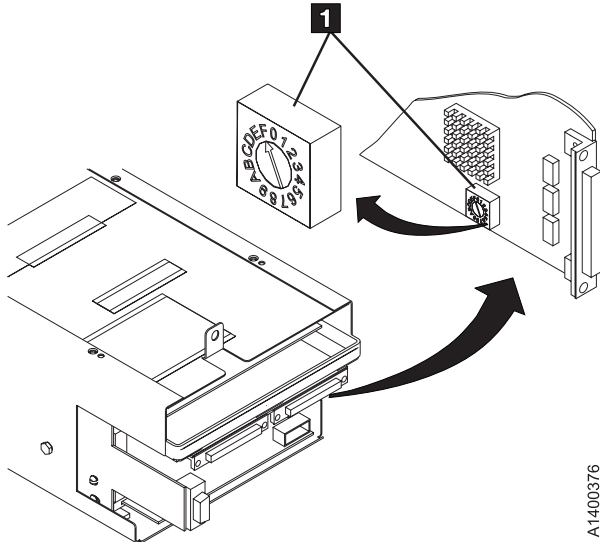

Figure 10-50. SCSI Card Mode Switch
2. See Figure 10-50. There is a selectable mode switch **1** on the bottom of the SCSI card in the E11/E1A and H11/H1A Card Pack and also in the Common Card Pack. Future microcode releases may use this switch for model or mode selection. This switch should always be set to the "F" position.